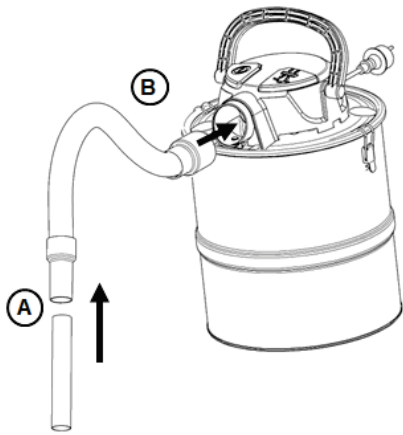

Fig.5
To vacuum insert the nozzle (A) into the suction hose cuff as on Fig. 5. Insert the hose with the cuff in the inlet of the vacuum cleaner (B).